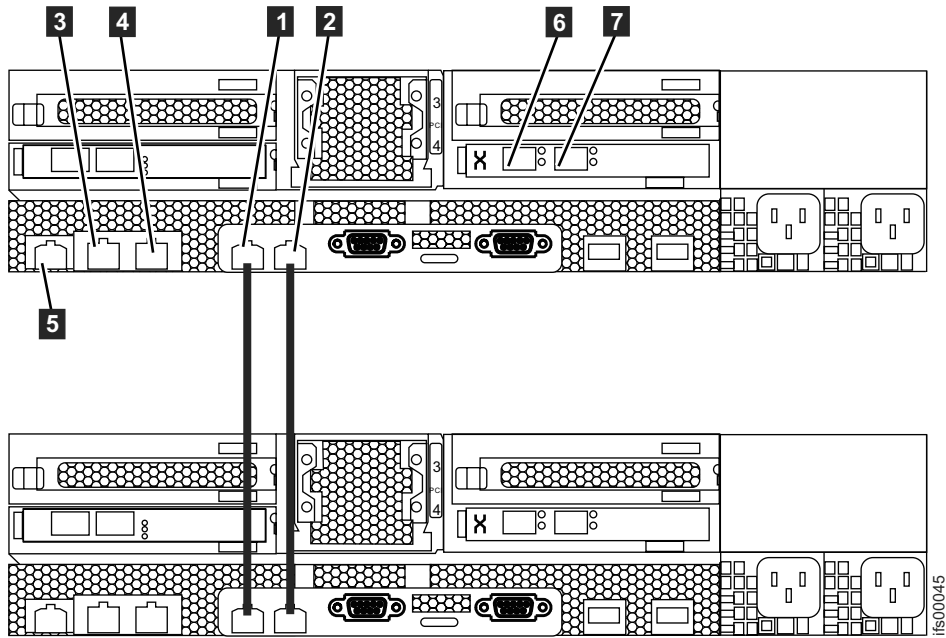

Figure 37. File module node Ethernet direct connections.
This task assumes that your initial planning has determined where the Ethernet cables are to be located. The Storwize V7000 Unified control enclosure requires at least one and a maximum of two 1 Gbps Ethernet connections. Refer to Figure 35, Figure 36 on page 35, and Table 3 on page 35. For the file modules, the first two 1 Gbps Ethernet ports labelled **1** and **2** in Figure 37 on page 36 are used for internal communications between the file modules. The third and fourth 1 Gbps Ethernet ports are used for management and data (if needed). All 10 Gbps Ethernet ports are dedicated to data. Management cannot be performed over the 10 Gbps Ethernet. Refer to Figure 37 on page 36 and Table 4 on page 36.
If you encounter that situation, change the service IP addresses on the new nodes before connecting the Ethernet cables. For details, see Figure 37 on page 36 or see the *Storwize V7000 Unified Problem Determination Guide* PDF on the DVD for further information about setting service IP addresses using a USB flash drive.
- Connect an Ethernet cable from Ethernet port 1 on the first file module to the first Ethernet port on the second file module. Refer to Figure 37 on page 36 for port locations.
You have two 10 Gbps Fibre Ethernet ports available for host connections from each file module. The ports are on the PCI card located in slot 4. Connect your network cables to the Ethernet ports in these slots as applicable. Refer to Figure 37 on page 36.